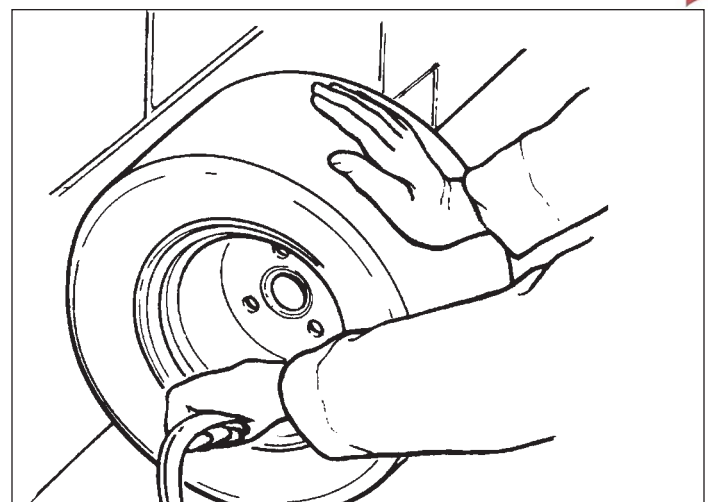

Figure 6-5. Inflating Tire
6. Place tire upright against a wall and push against tire on opposite side (Figure 6-5). This three-point contact will bring bead out to contact wheel and bead snaps into place as air is applied.